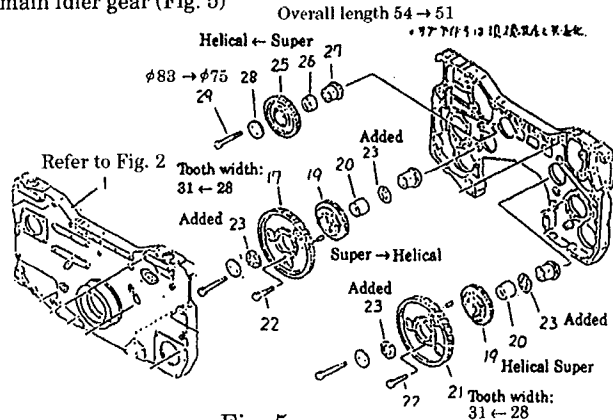

Fig. 5
- ② Change of installation specifications of electronic governor for HD785-3
(1) Change of main idler gear (Fig. 5)